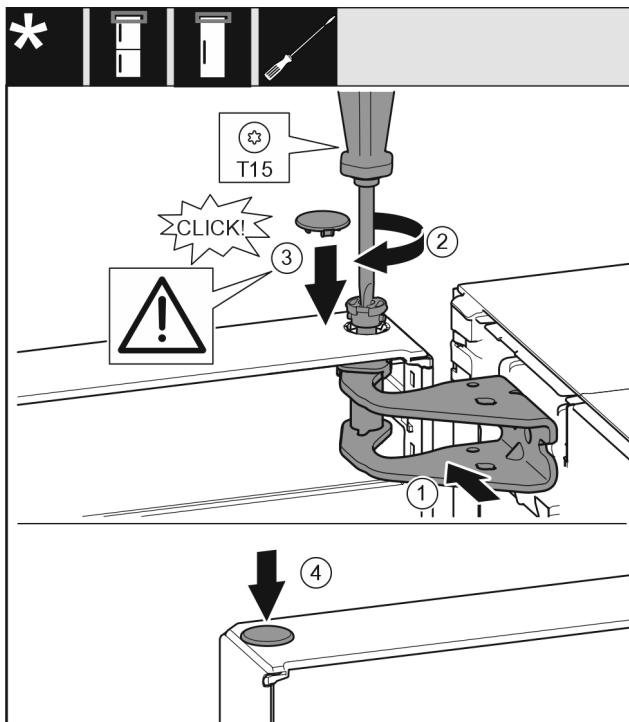

Fig. 23
- ▶ Align the top door with the opening in the swap bearing block Fig. 23 (1).
- ▶ Insert the bolt Fig. 23 (2) and use screwdriver to tighten it.
- ▶ Insert the cover Fig. 23 (3).
- ▶ Check that the cover Fig. 23 (3) is resting on the door.
- ▶ Insert the cover Fig. 23 (4).